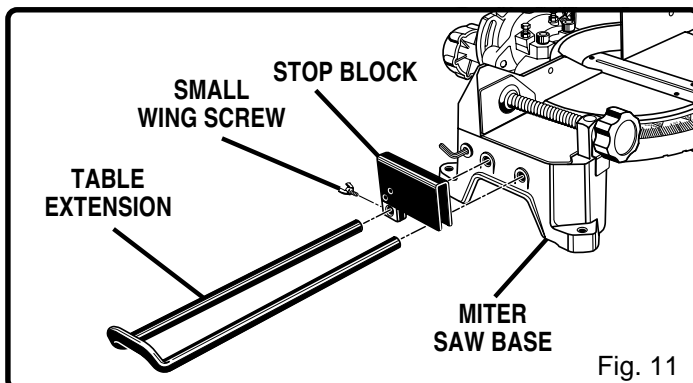

Fig. 11
See Figures 11, 12, and 13.
See Figures 11 and 14.
- Slide the stop block on the back arm of either table extension, then insert the table extensions into the saw base. See Figure 11.
- Use the small wing screw to secure the stop block to the table extensions. See Figure 11.